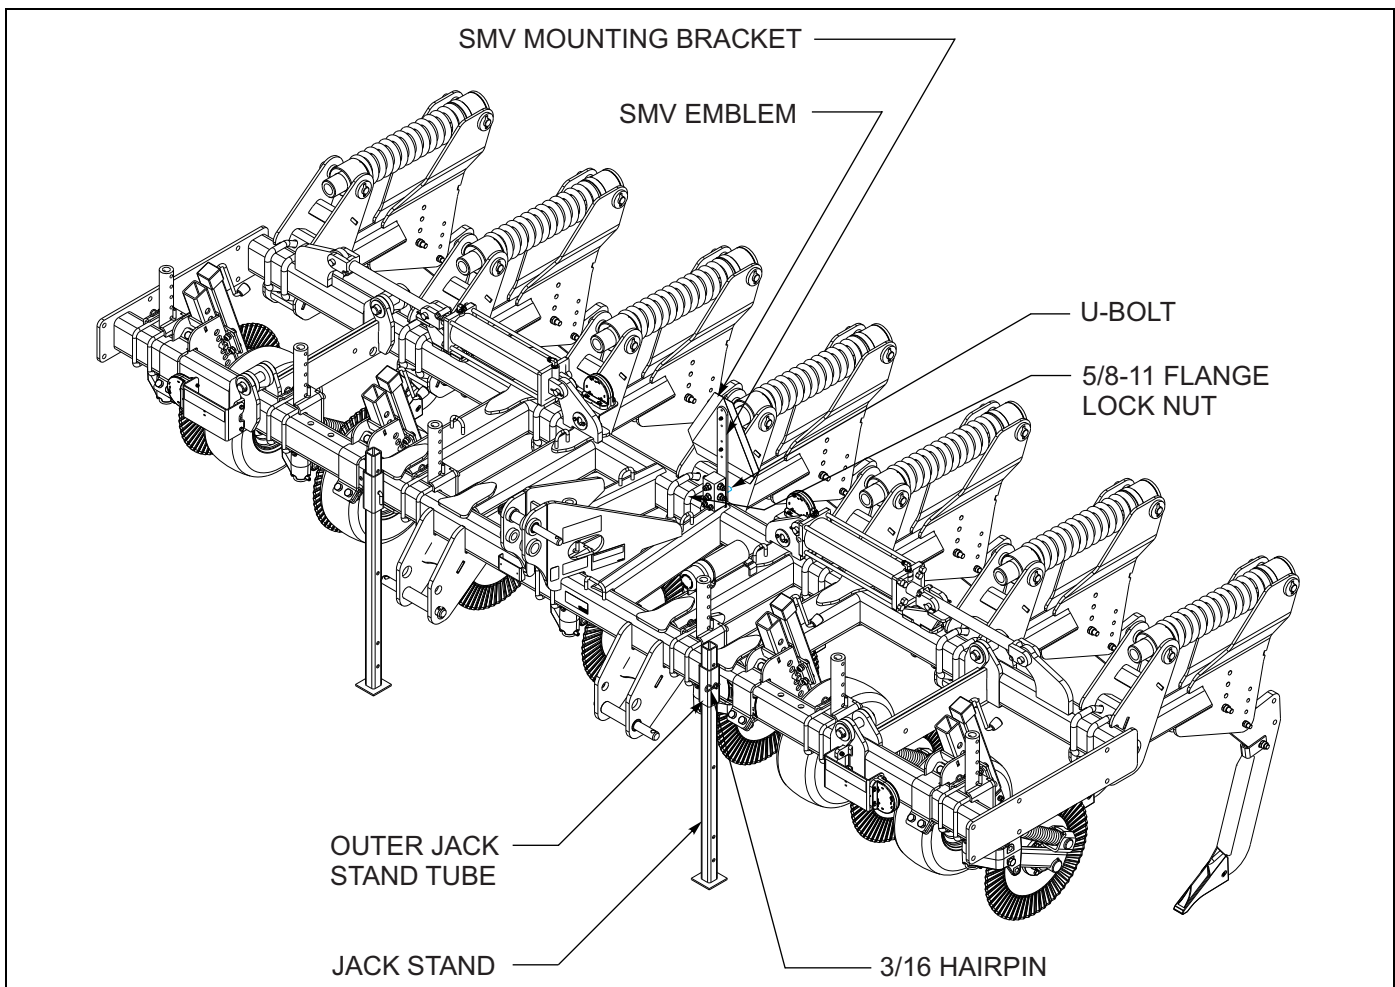

Figure 3-1: 2511 Series Parts Identification
3. Insert jackstand through bottom of outer jackstand tube and pin at desired level with rigid gauge adjustment pin and 3/16 hair pin cotter (See Figure 3-1.)
1. Attach the SMV mounting bracket at a point where emblem is visible from rear of machine, using u-bolt and 5/8-11 flange head serrated nuts (See Figure 3-1.)